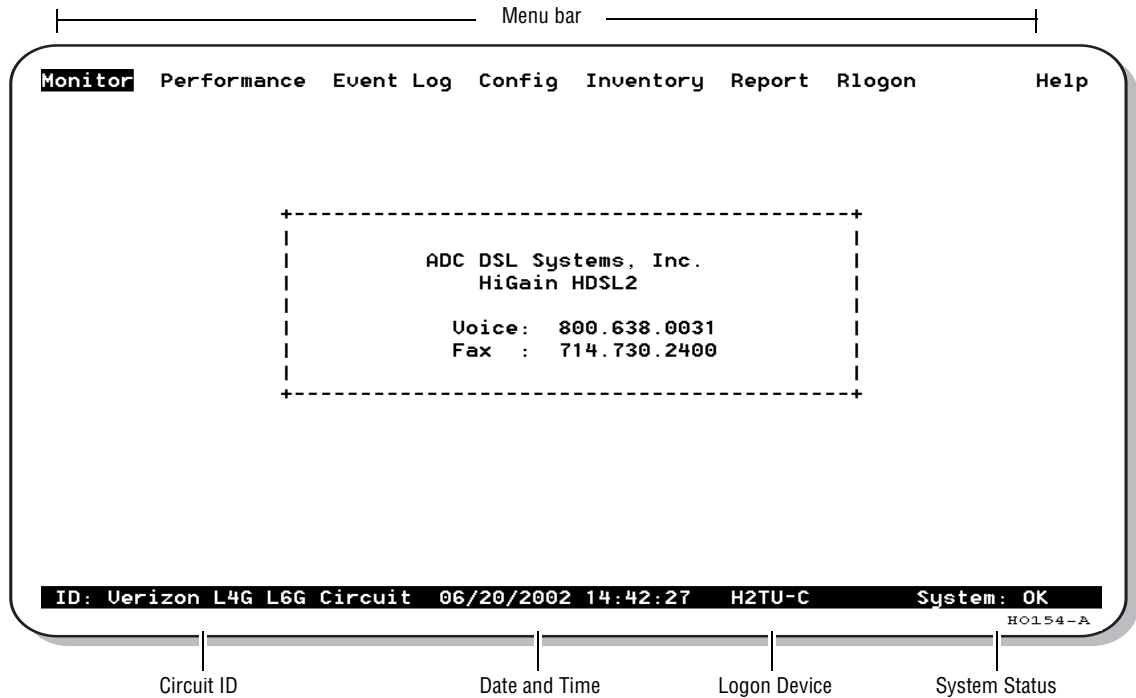

Figure 4. Logon Screen
Use a maintenance terminal (ASCII terminal or a PC running terminal emulation software) connected to the H2TU-C craft port (or to an HMU craft port) to access the status, history, inventory, and provisioning screens (see Figure 4 on page 9).
To select a menu from the logon screen (Figure 4 on page 9), do one of the following:
- 3 Type the date in the format indicated (see Figure 4), then press **ENTER**.